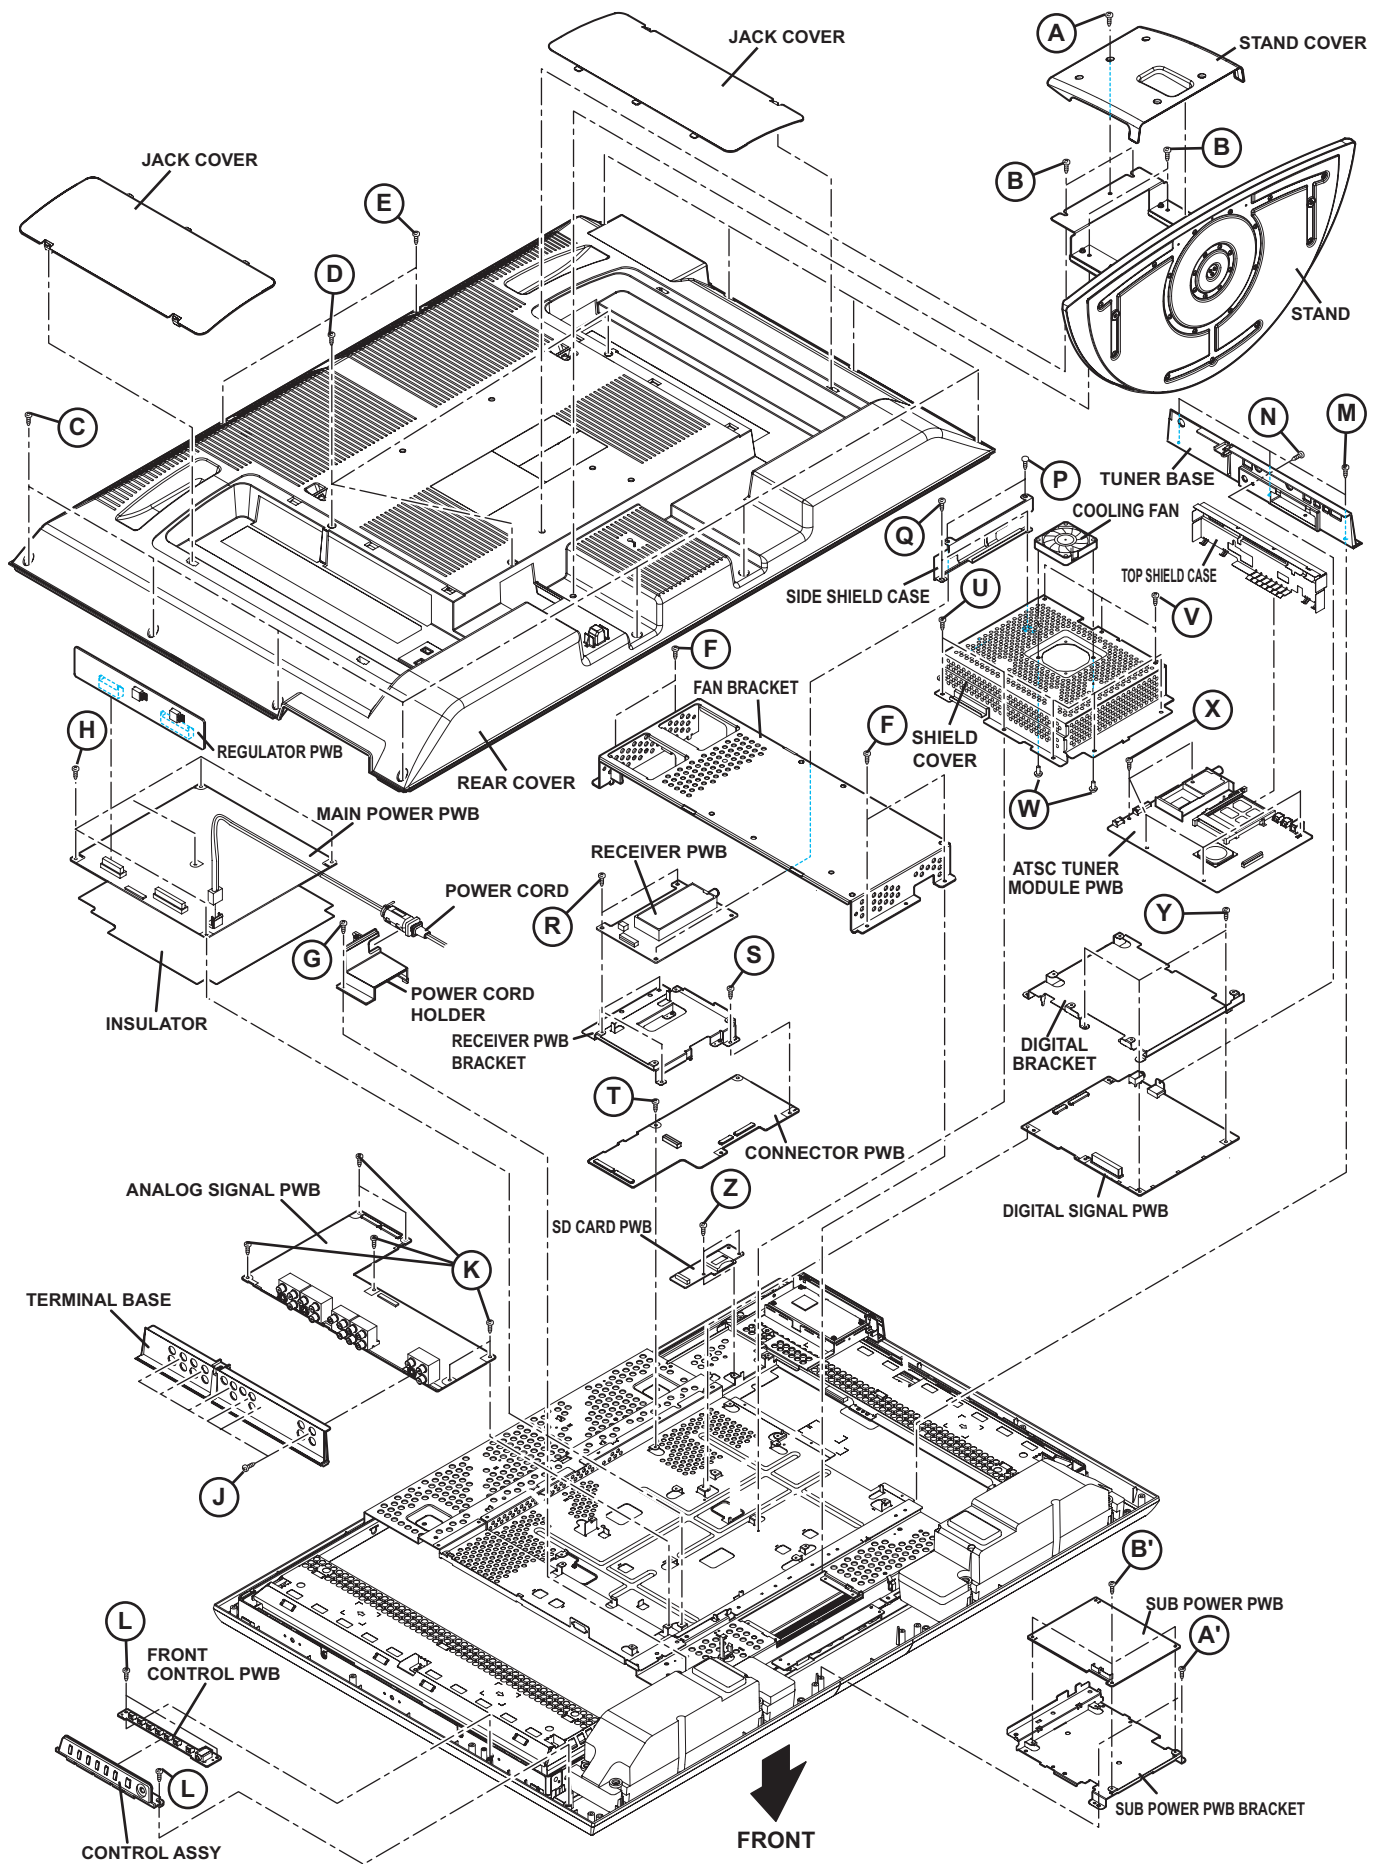

Fig.1
- (1) Remove the 5 screws **[U]** and the 3 screws **[V]**, then remove the SHIELD COVER with COOLING FAN.
- (2) Remove the 2 ribets **[W]**, then the remove the COOLING FAN.
3.2.10 REMOVING THE ATSC TUNER MODULE PWB (Fig.1)
- (1) Remove the 5 screws **[X]**, then remove the DIGITAL TUNER UNIT.
3.2.11 REMOVING THE DIGITAL SIGNAL PWB (Fig.1)
- (1) Remove the 3 screws **[Y]**, then remove the DIGITAL BRACKET.
- (2) Remove the DIGITAL SIGNALPWB.
3.2.12 REMOVING THE SD CARD PWB (Fig.1)
- (1) Remove the 2 screws **[Z]**, then remove the SD CARD PWB.
3.2.13 REMOVING THE SUB POWER PWB (Fig.1)